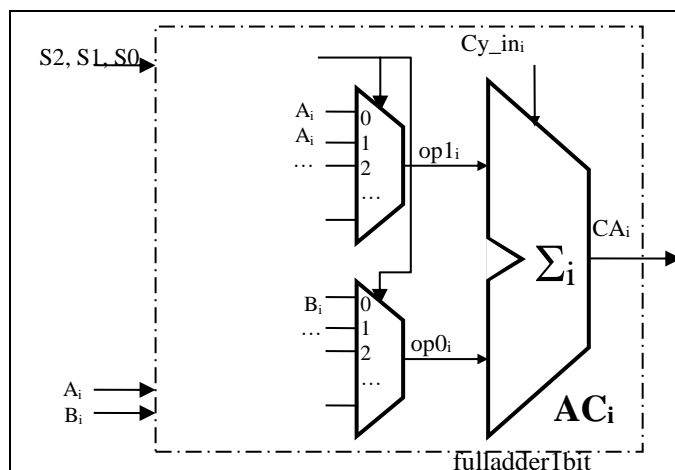
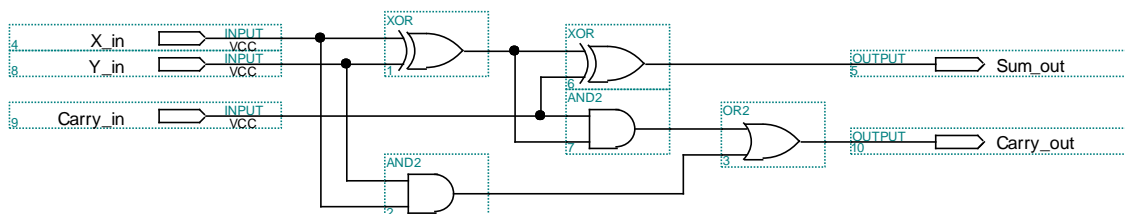

Fig. 6: AC_i incomplete logic diagram
Figure 9: Logic diagram of a full adder (marked Σ in Fig. 6)
5.4.4. Complete the block diagram of AC_i of Fig. 6 with logic components that implement the conclusions you drew above (5.4.1 - 5.4.2):
Note: Σ_i is based on the *full adder* shown in Figure 9.
- 6.5. Capture the full adder of Figure 9 in a file called “*fulladder1bit.bdf*.” Add the other logic components that are needed to implement the logic circuit ACi that you developed from Fig. 6. Repeat the necessary steps to create the corresponding symbol.